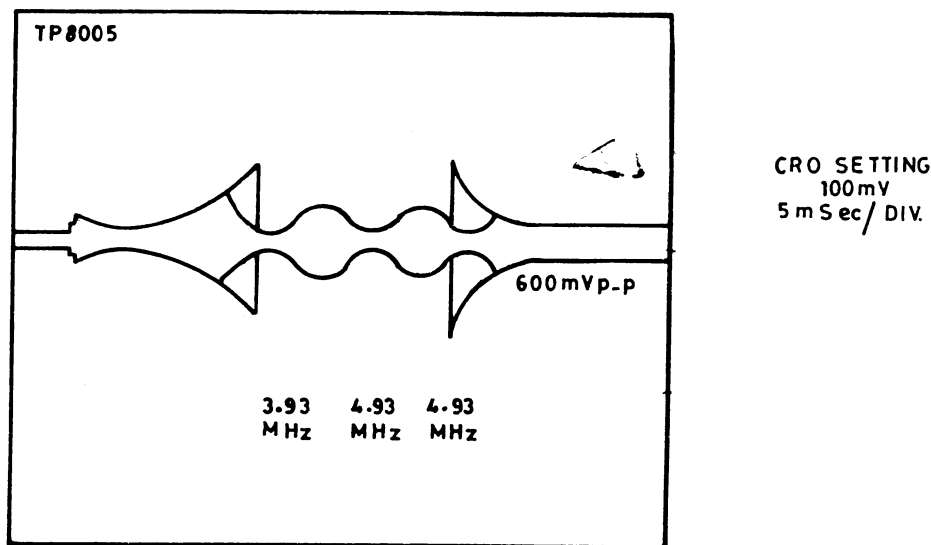

Fig. 11.16
4. Adjust comb filter adjustment R 8016 so that the carrier leakage 'A' at 4.43 MHz becomes minimum as shown in fig. 11.16.